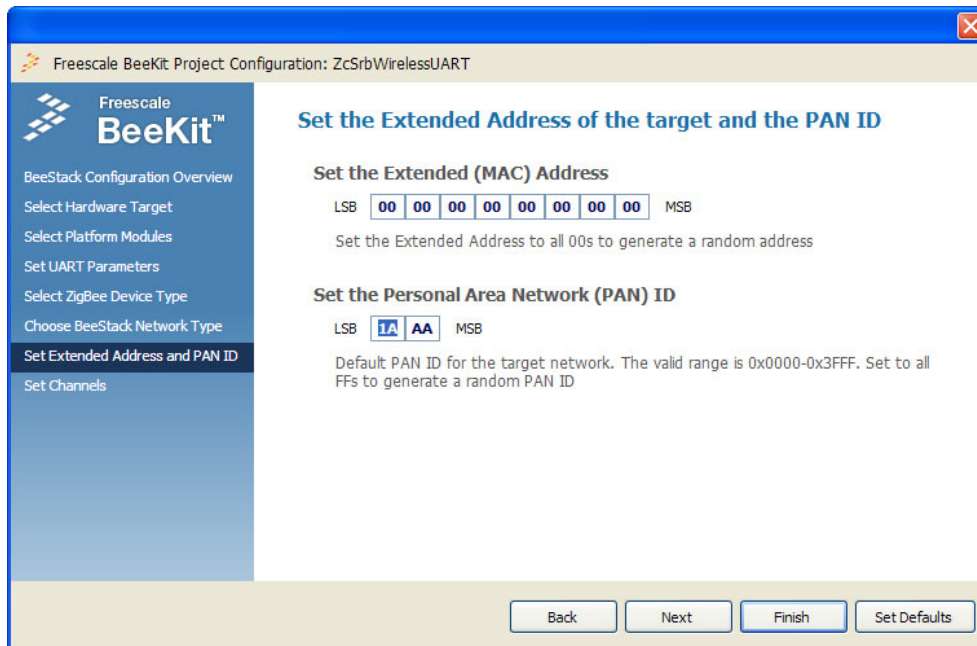

Figure 5-9. Extended Address and PAN ID Selection Page
8. Click the Next button and the Set Extended Address and PAN ID window appears as shown in Figure 5-9. For this example, leave the Extended Address option with all zeros. BeeKit automatically generates a random (but not guaranteed unique) address. Alternatively, enter the full MAC address from the label on the development board. Leave the default PAN ID set to 0x1AAA.
6. Click the Next button and set the Extended address and PAN ID the same as it was for the Coordinator as shown in Figure 5-9.